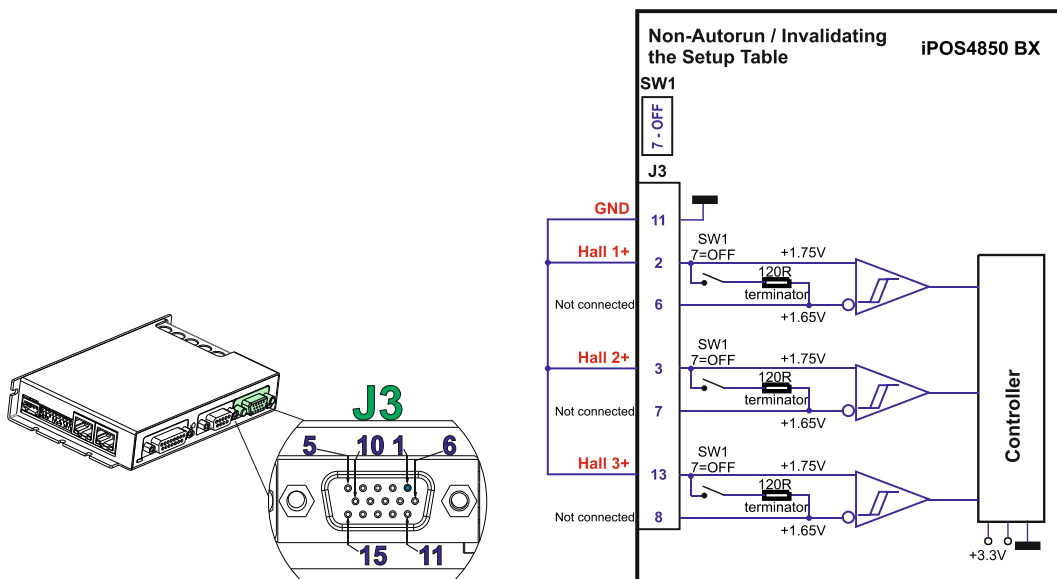

Figure 26. Temporary connection during power-on to remove the drive from Autorun mode or disable Setup
- Hardware2 – by temporary connecting all digital Hall inputs to GND, during the power-on for about 1 second, until the green LED is turned on, as shown in Figure 26. Temporary connection during power-on to remove the drive from Autorun mode or disable Setup”. This option is particularly useful when it is not possible to communicate with the drive.